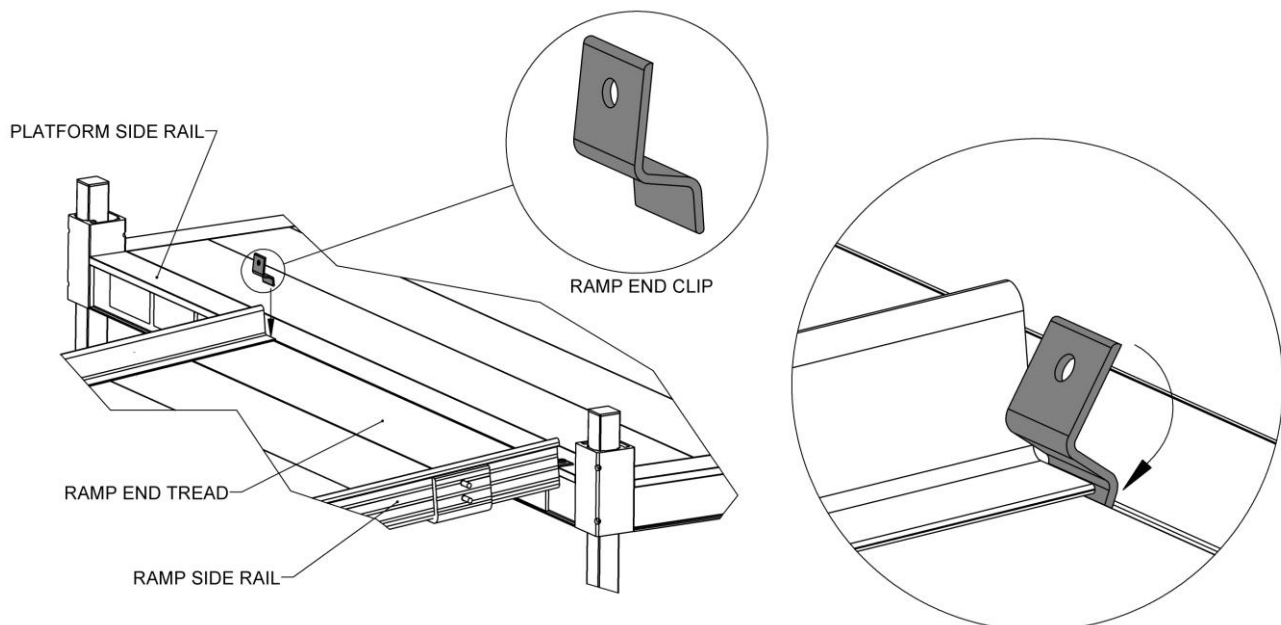

FIG. 5.1
5.1.2 Position each Ramp End Clip with the hole pointing up and oriented as shown in FIG 5.1, then insert the short end of the Ramp End Clip into small gap between the ramp and the platform in the area where the ramp side rail overlaps the ramp end tread (FIG 5.1).
5.1.3 Before the Ramp End Clip contacts the ramp side rail, rotate the Ramp End Clip so the short end extends into the recess under the ramp end tread. (FIG 5.1).